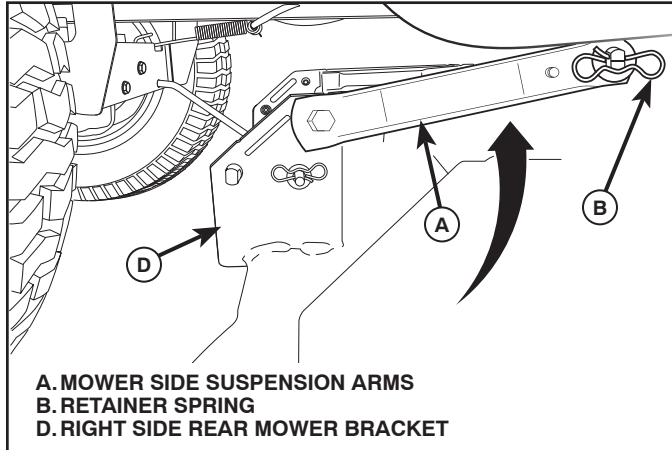

Fig. 28
## 6. ATTACH MOWER SIDE SUSPENSION ARMS (A) TO CHASSIS (See Fig. 28)
- Position front hole in side suspension arm (A) over pin on outside of tractor chassis and secure with large washer and large retainer spring (B).